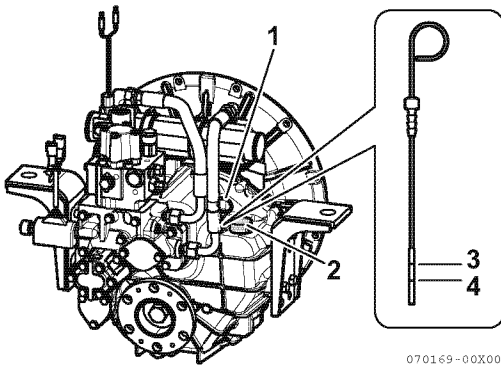

Figure 8
2. Remove the filler cap (**Figure 8, (2)**) at the top of the housing.
3. Remove dipstick (**Figure 8, (1)**) and wipe with clean cloth.
5. Remove dipstick. The oil level should be between upper (**Figure 8, (3)**) and lower (**Figure 8, (4)**) lines on the dipstick.
3. Fill with oil to the upper limit on the dipstick (**Figure 8, (3)**). See *Marine Gear Oil Specifications* on page 31.